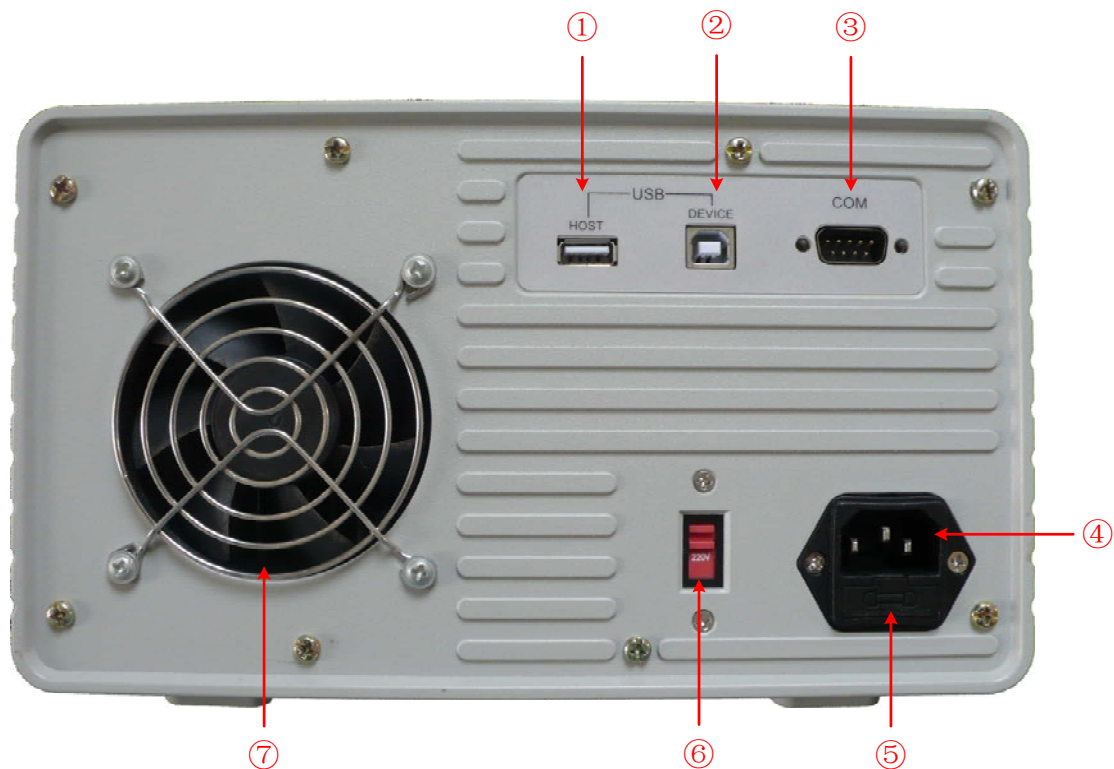

Figure 4-2 Rear panel overview
ODP3051 adopt 110V/220V AC power source. Users should regulate the voltage scale of the **Power Switch** according to the standards in their own country (see *Figure 4-2*) at the rear panel and use an appropriate fuse.
- (1) Turn off the power button at the front panel and remove the power cord.
- (2) Check if the fuse installed before leaving factory (250 V, F3 A) can match with the selected voltage scale; if not, pry the cover open using a straight screwdriver (see ⑤ in *Figure 4-2*), change the fuse.
- (3) Regulate the **Power Switch** to the right voltage scale.